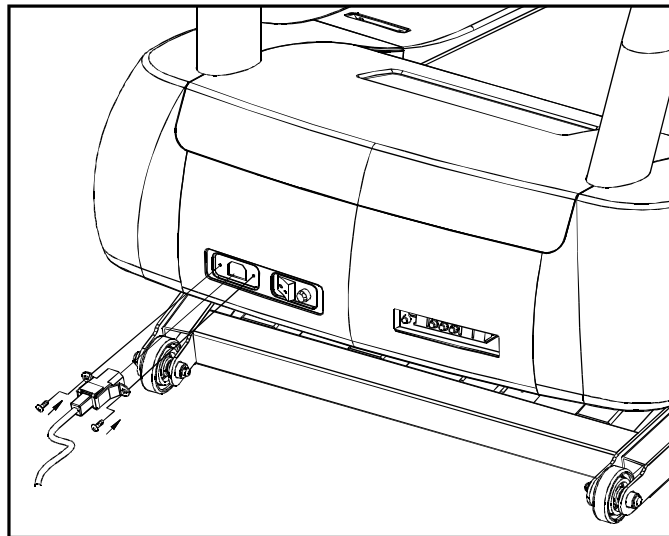

Fig.1
**STEP 1.** Use the PHILLIPS-HEAD SCREWDRIVER to remove the screws (3 pcs) from the side plates of the motor cover (both left and right) and remove both side plates, then use the ALLEN WRENCH WITH THE L-SHAPED HANDLE (6 mm) to remove the screws and washers (6 sets) from the pedestal bracket area. (See Fig. 1.)